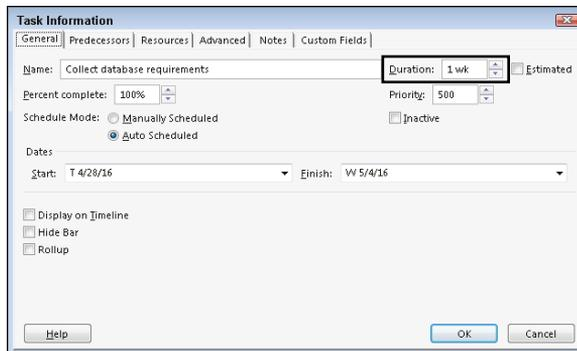

Figure 5-2:
3. In the Duration box, use the spinner arrows to increase or decrease the duration, as shown in Figure 5-2.